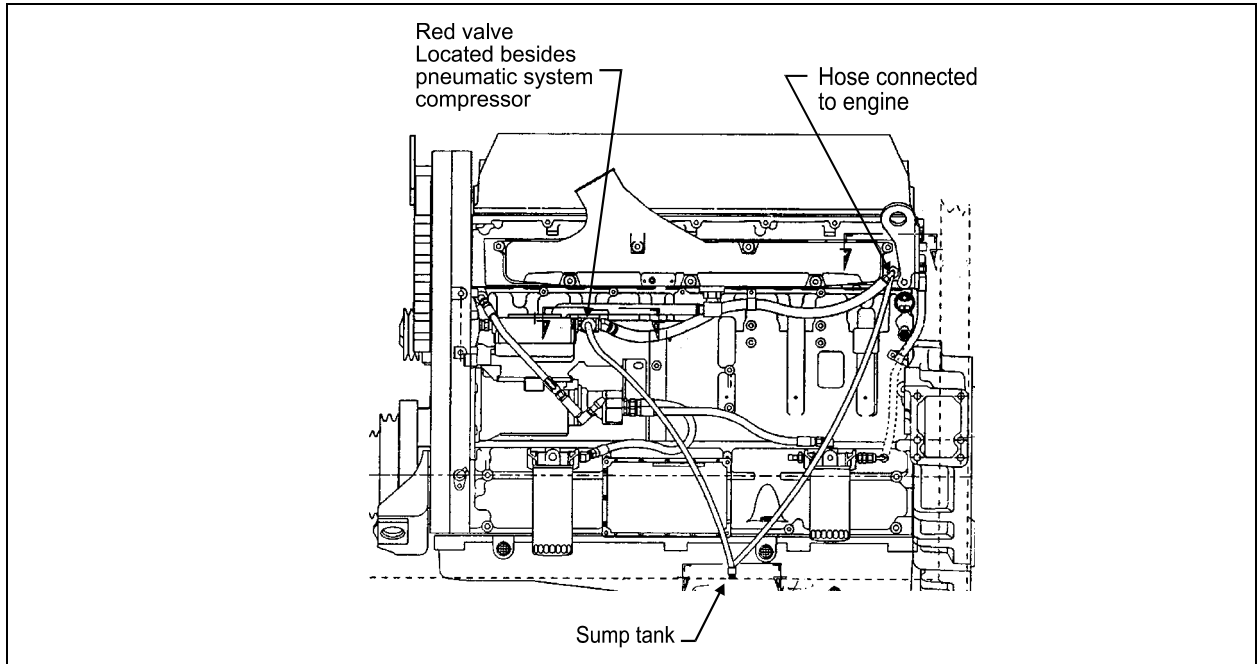

FIGURE 1: ENGINE-COMPRESSOR SIDE
4. *Close (red) valve next to pneumatic system compressor (Fig.1).
19. *Open (red) valve next to pneumatic system compressor (Fig.1).